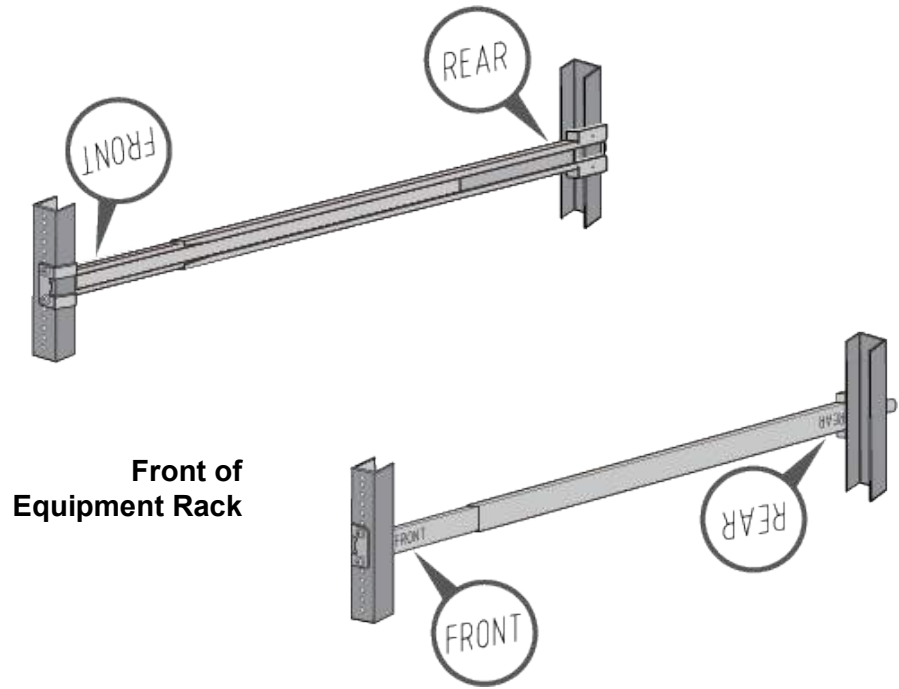

Figure 83. Installing the Outer Rails on the Equipment Rack
2. Attach the outer rails to the equipment rack using the supplied screws. Use four screws per rail. Refer to Figure 83 on page 143. Installing the switch can be easier if you leave the screws slightly loosened now and fully tightened them after the switch is installed.